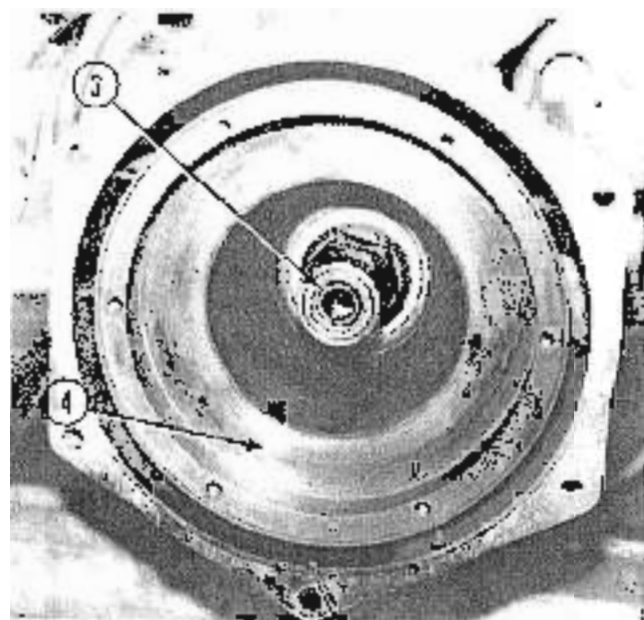

FIG. 11
- (2) Inspect pilot bearing, (3, Fig. 11)
- (3) Inspect flywheel friction face, (4, Fig. 11)